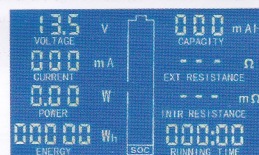
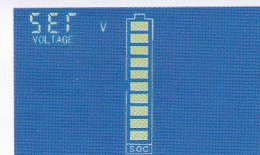

Figure 1: the normal display interface
Figure 2: the voltage setting interface
Step 1: In the normal display interface (like fig. 1), long press the button until the LCD screen displays the interface like fig. 2, then release the button.
- Step 1: In the normal display interface, long press the button until the LCD shows the interface of Figure 2, then release the button, short press the button again switch to the interface to Figure 7, it indicates that this state is the current range setting state.
- Step 1: In the normal display interface, long press the button until the LCD shows the interface of Figure 2, then release the button, short press the button again switch to the interface to Figure 9, it indicates that this state is the clearing energy setting state.
- Step 1: In the normal display interface, long press the button until the LCD shows the interface of Figure 2, then release the button, short press the button again switch to the interface to Figure 10, it indicates that this state is the clearing capacity setting state.
- Step 1: In the normal display interface, long press the button until the LCD shows the interface of Figure 2, then release the button, short press the button again switch to the interface to Figure 11, it indicates that this state is the clearing running time setting state.